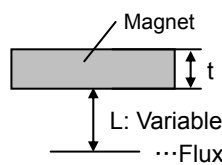

Fig.27 Magnet Dimensions and Flux Density Measuring Point
Of the two representative varieties of permanent magnet, neodymium generally offers greater magnetic power per volume than ferrite, thereby enabling the highest degree of miniaturization. Thus, neodymium is best suited for small equipment applications. Fig. 26 shows the relation between the size (volume) of a neodymium magnet and magnetic flux density. The graph plots the correlation between the distance (L) from three versions of a 4mm X 4mm cross-section neodymium magnet (1mm, 2mm, and 3mm thick) and magnetic flux density. Fig. 27 shows Hall IC detection distance – a good guide for determining the proper size and detection distance of the magnet. Based on the BU52014HFV operating point max 5.0 mT, the minimum detection distance for the 1mm, 2mm and 3mm magnets would be 7.6mm, 9.2mm, and 10.4mm, respectively. To increase the magnet's detection distance, either increase its thickness or sectional area.